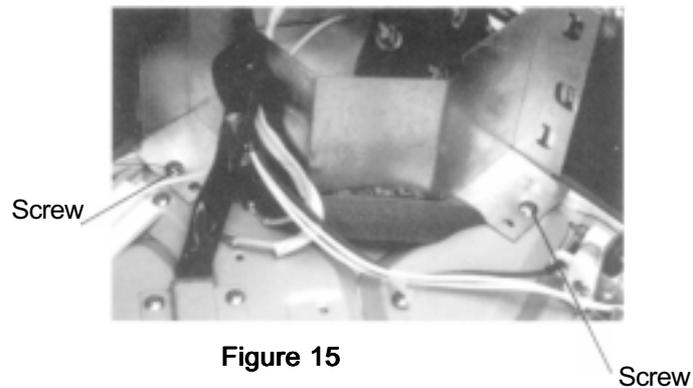

Figure 15
- ⑧ Disassemble the evaporator parts
- Unscrew the two screws as shown in figure 15, and remove the connecting board of evaporator.